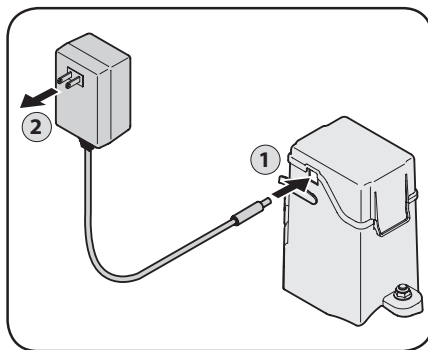

Figure 4-12
1. Unhinge the cover seal and plug the battery charger into the port on the side of the battery housing. See Figure 4-12.